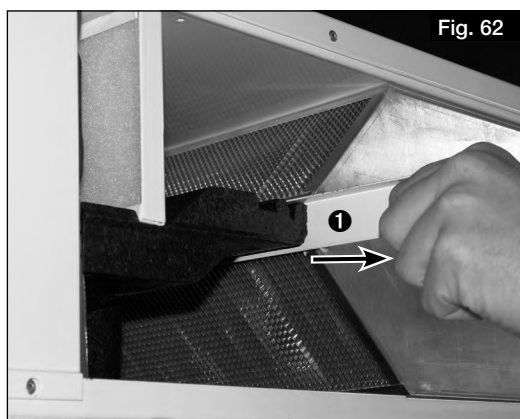

Fig. 62
2. Pull out sealing strip **1** (see Fig. 62).